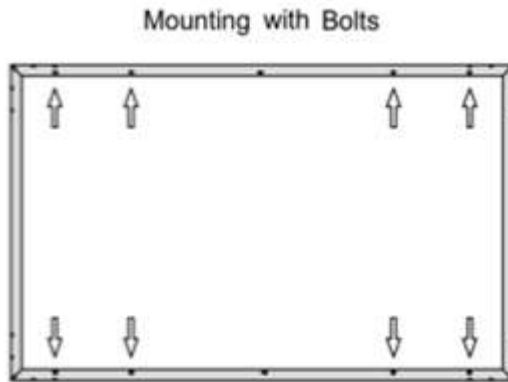

Figure 14: 8 Mounting holes on the back frame of modules SPVxxx-R60DWMG / SPVxxx-R60DBMG
- If the rails do not have holes compatible with bolt holes on the frame of the modules, suitable holes should be drilled for securing the modules to the rails (See *Figure 14*).